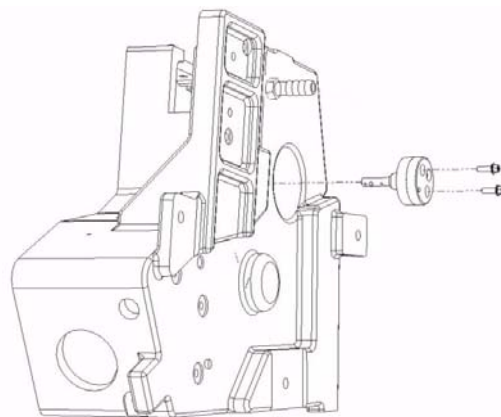

Figure 4 - Removing the Aperture Holder Assembly
10. Using a T10 Torx screwdriver, remove the two screws that secure the aperture to the underside of the optics bench (Figure 4).